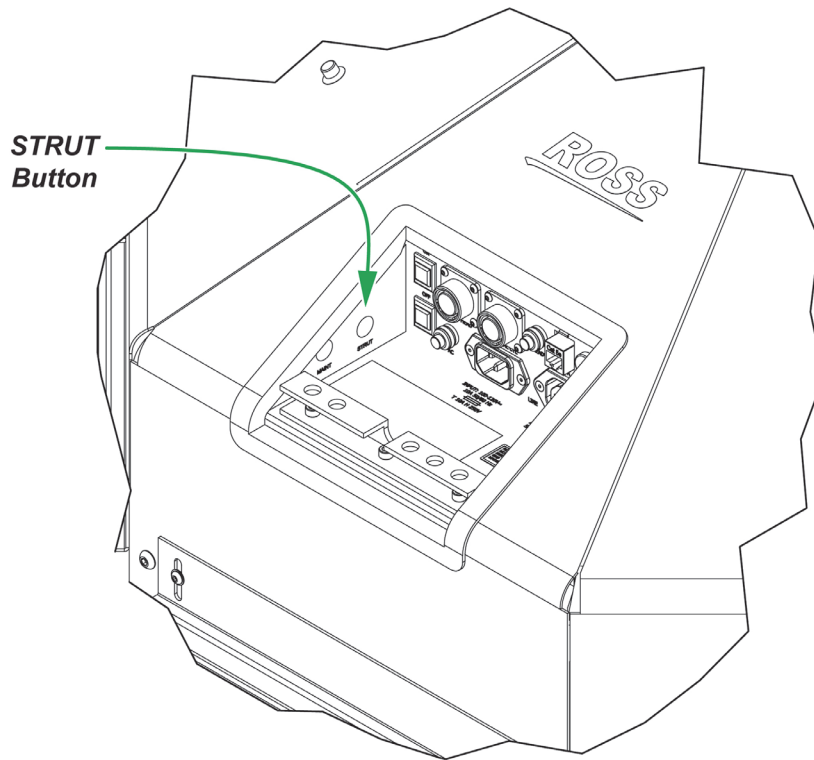

Figure 17 - The STRUT Button on the Connection Panel
- a. Press and hold the **STRUT** button and then turn the pedestal **ON** (see **Figure 17**).